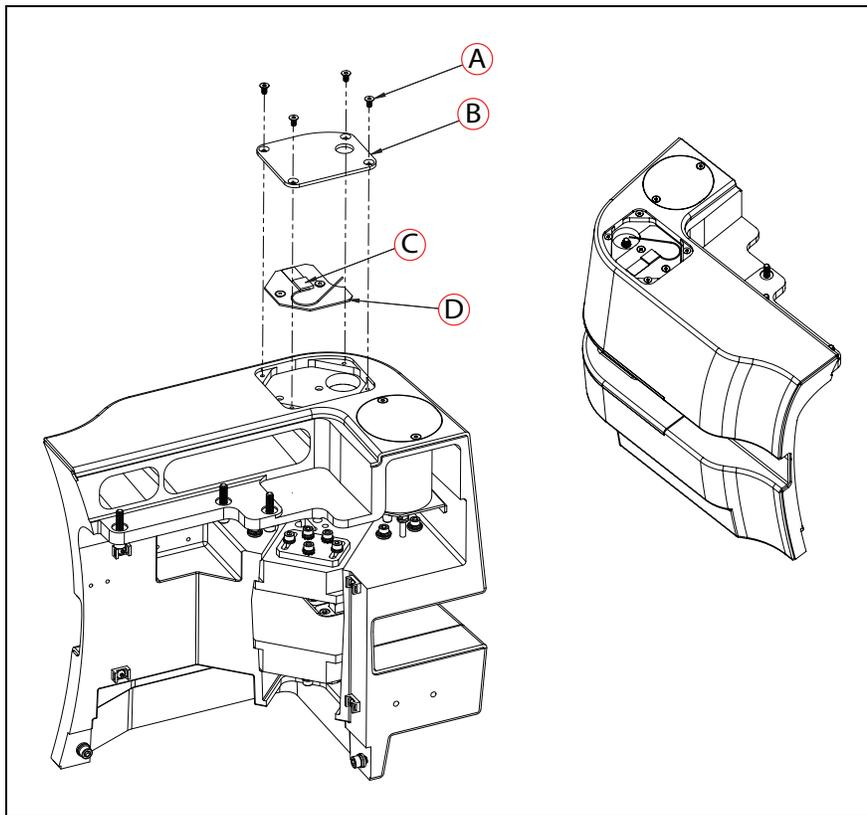

Figure 8-41. (A) M4 Screw, (B) Cover, (C) Wifi Antenna Taped to the Base Plate, and (D) Base Plate
1. Unscrew all four M4 screws ((A) in Figure 8-41. that attach the cover ((B) in Figure 8-41. to the AMR.
2. The Wifi antenna ((C) in Figure 8-41. is taped to the base plate ((D) in Figure 8-41. Remove the Wifi antenna from the base plate.